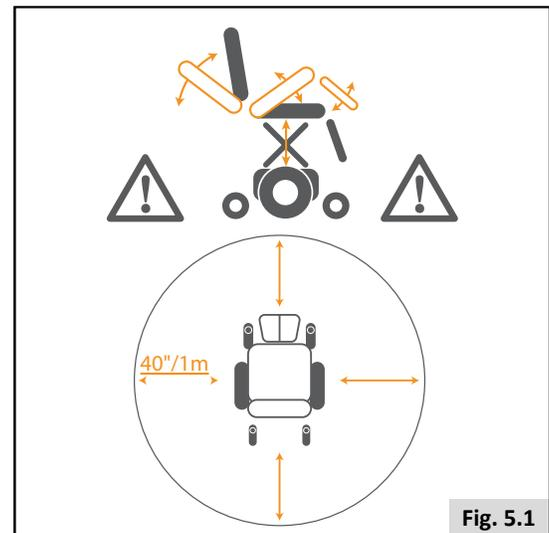

Fig. 5.1
- As with all moving parts be careful not to trap your fingers, Fig 5.1.